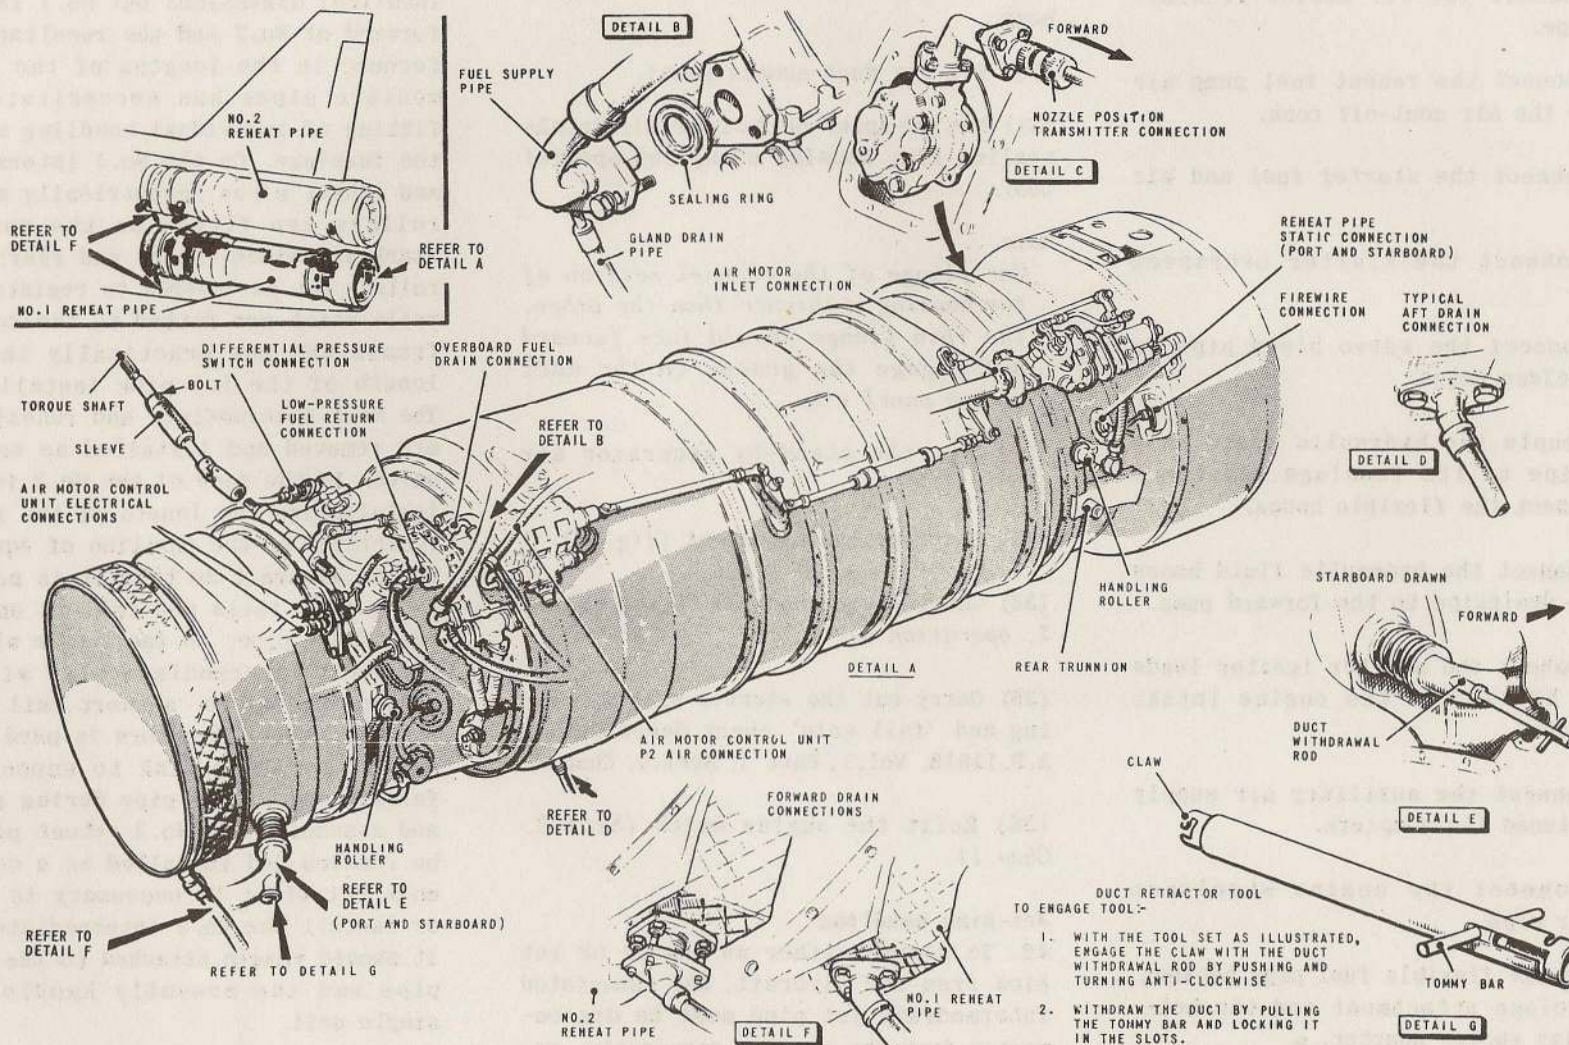

FIG. 18. CONNECTIONS TO JET PIPE
(3) Disconnect the forward and aft fuel drain hoses from the reheat pipe (fig.18, detail D and F; access panels 85P and 94P).
(4) Disconnect the fuel supply, low-pressure return and drainpipes, and the air pressure pipe from the A.M.C.U. (access panel 76P).
(5) Disconnect the electrical cables to the jet pipe thermocouple terminal block.
(6) Disconnect the electrical cables from the bracket at the forward end of the reheat pipe (access panel 76P) (fig.18).
(7) Disconnect the electrical cable to the differential-pressure switch (access panel 76S).
(9) Withdraw the port and starboard cooling ducts using the retractor tools (fig.18, detail E and G; access panels 105P and 105S).
(10) Withdraw the hot gas exhaust duct using the retractor tool in the aperture immediately forward of access panel 76P.
(11) Unlock access panels 88P and 88S; hinge them back and secure them by inserting the quick-release pins provided through the holes in the lower edge of the panels and the fuselage skin.
(12) Disconnect the electrical cable from the nozzle position transmitter (fig.18, detail C).
(13) Disconnect the electrical cable from the Firewire system connection on the nozzle cowling (fig.18).
(14) Disconnect the compressor-air-delivery pipe at the air motor (fig.18).
(15) Lower the front and rear rollers on the intermediate pipe to the fuselage rails, using the roller key. The front rollers are accessible behind access panels 53P and 53S and the rear rollers behind access panels 77P and 47S.
(10) Remove the cradle and the cradle attachment brackets.
(11) Connect the fuel, air and drain-pipes to the a.m.c.u. Connect the appropriate electrical cables to the thermocouple terminal box and reheat pipe brackets (fig.18; access panel 76P).
(12) Connect the torque shaft to the airframe and jet-pipe splines, fit the locking bolt and nut (access panel 76S) and secure using a new split pin. ▶
(13) Connect both forward and aft reheat fuel drain connections (fig.18, detail D and F; access panels 72S and 76S).
(14) Connect the electrical cable to the differential pressure switch (access panel 76S).
(15) Release the hot-gas exhaust duct and remove the retractor. Ensure that the telescopic duct moves freely and seats correctly on the jet pipe. ▶
(17) Connect the compressor air pipe to the nozzle air motor (fig.18).
(18) Connect the nozzle-position transmitter and Firewire electrical cables.
(19) Check that all connections are correctly made and, where applicable, locked.
(20) Fit all skin access panels.
(1) Ensure that the necessary precautions (para.33) are being observed.
(2) Remove No.2 engine hatch (Sect.3, Chap.1).
(3) Disconnect the forward and aft fuel drain hoses from the reheat pipe (fig.18, detail D and F; access panels 72S and 76S).
(4) Disconnect the fuel supply, low-pressure return and drainpipes, and the air pressure pipe from the a.m.c.u. (access panel 76S).
(6) Withdraw the port and starboard cooling ducts using the retractor tools (fig.18, detail E and G; access panels 74P and 74S).
(7) Withdraw the hot-gas exhaust ducts using the retractor tools in the apertures on each side of the forward fin section.
(8) Disconnect the electrical cable from the jet pipe thermocouple terminal block (access panel 76S).
(9) Disconnect the electrical cables from the bracket on the forward end of the jet pipe.